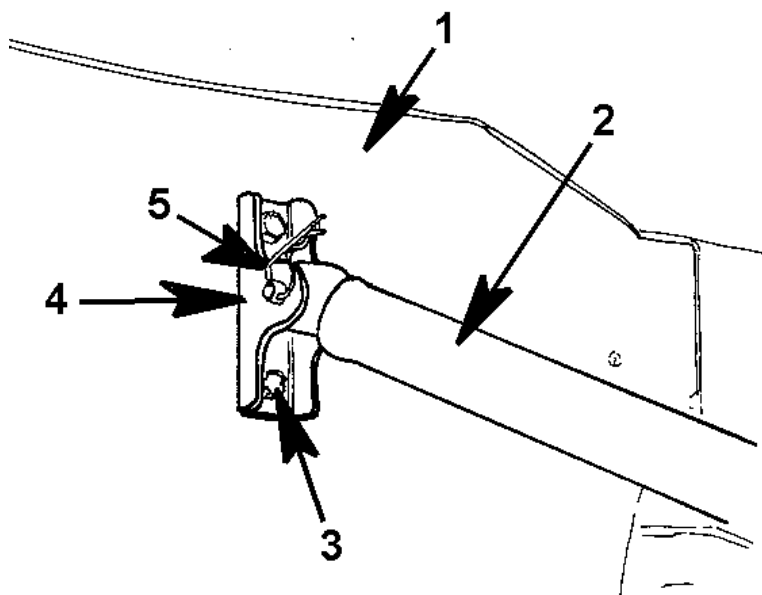
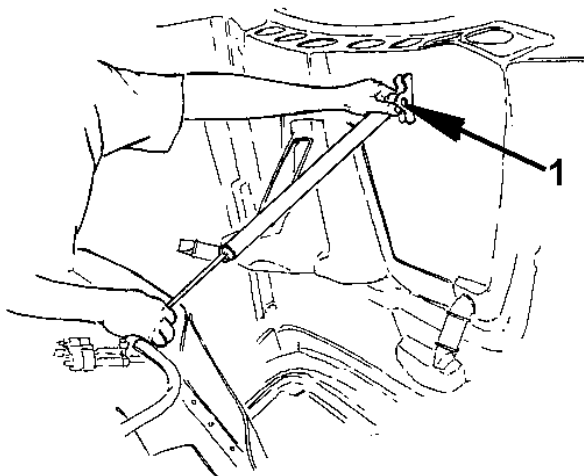
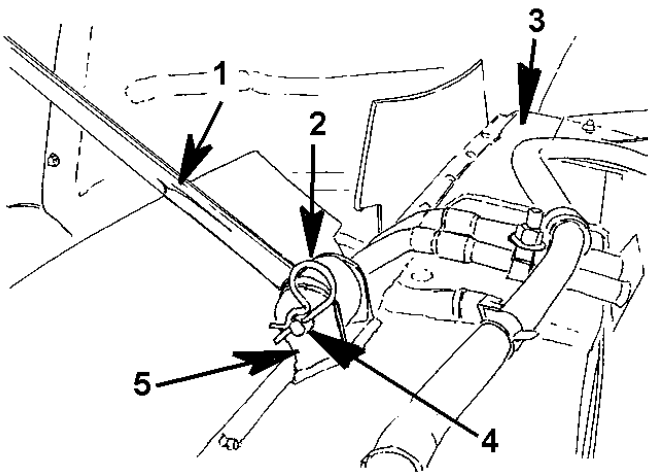
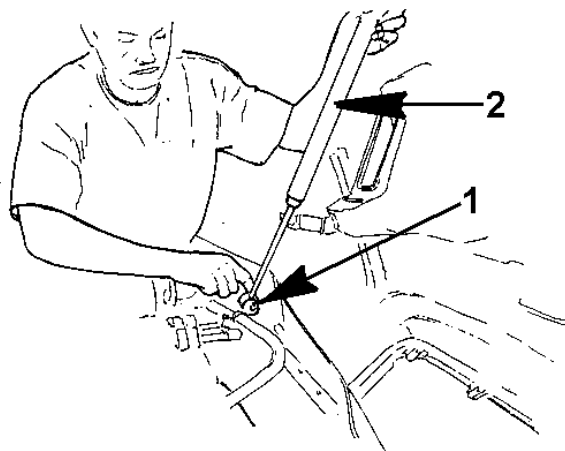

Figure 16 Assist Cylinder Upper Mounting Bracket
Figure 17 8600 Model Hood Tilt Assist Removal
Figure 18 Hood Tilt Lower Assist Assembly
Figure 19 Tilt Assist Arm Removal
4. Locate the hood tilt assist cylinder brackets, both upper and lower (Figure 16, Item 4 and Figure 18, Item 5), on the underside of the hood assembly.
5. Locate and remove the upper retainer pin clip (Figure 16, Item 5) from the assist cylinder retainer pin.
6. Remove the retainer pin from the assist cylinder and mounting bracket (Figure 17, Item 1).
7. Locate the torsion bar hood tilt assist assembly lower bracket (Figure 18, Item 5). Remove the retaining pin clip (Figure 18, Item 2) that secures the retainer pin to the tilt assist cylinder and assist cylinder mounting bracket (Figure 18, Item 1 and 5).
8. Remove the retainer pin (Figure 18, Item 4).
9. Remove the tilt assist cylinder (Figure 19, Item 2) from the hood tilt assembly brackets.
13. Align the lower end of the hood assist cylinder in the radiator top frame mounting bracket (Figure 19, item 1). Insert the retaining pin through the bracket and cylinder bushing (Figure 18, Item 4). Insert the retaining pin clip into the retaining pin (Figure 18, Item 2). Extend the assist cylinder upward and align the upper assist cylinder end with the upper hood mounted bracket (Figure 17, Item 1). Insert the retainer pin through the assist cylinder end and mounting bracket. Install the retainer pin clip (Figure 16, Item 5) through the retainer pin.